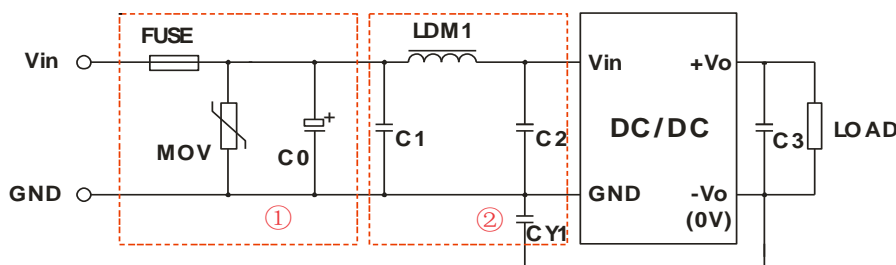

Fig. 3
Radiated emission	CISPR22/EN55022 CLASS A(Bare component) CLASS B (see Fig.3-② for recommended circuit)
Note: ①Part ① in the Fig. 3 is used for EMS test and part ② for EMI filtering, selected based on needs.
②If there is no recommended parameters, the model no require the external component.